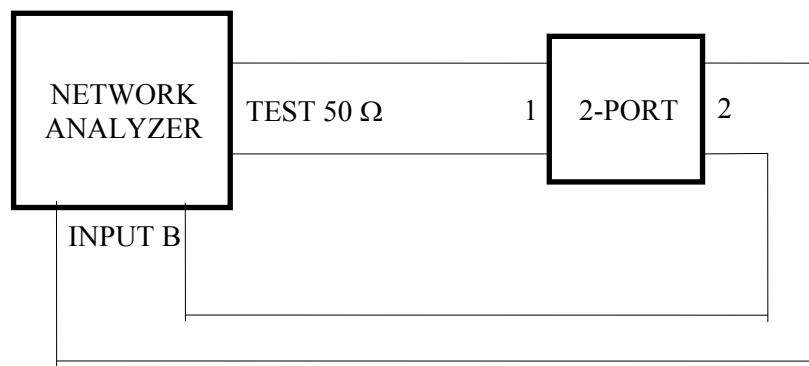

Figure 4. Circuit connection for s_{21} measurement.
- b. Connect port 1 of your circuit to the cable from the TEST 50 Ω port of the signal divider, and connect port 2 of your circuit to the INPUT B port of the analyzer as shown in Figure 4 below.